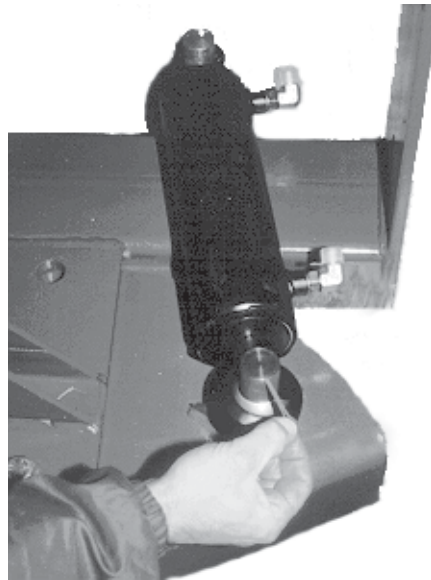

Figure 14
2. Install the cylinder with the barrel end on the swing assembly and the rod end on the swing plate. Secure with cotter pins (figure 14).